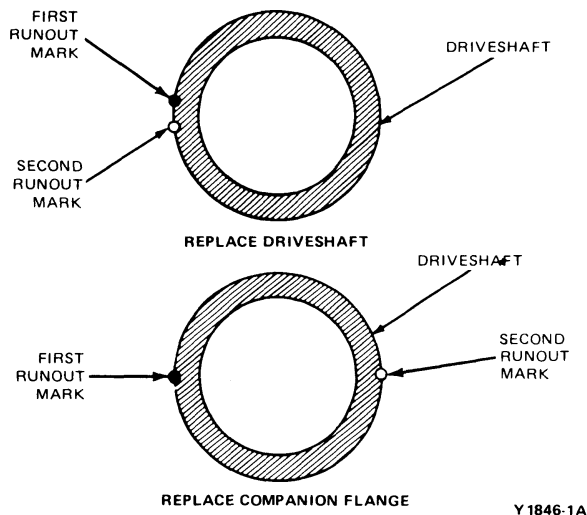

FIG. 7 Reading Runout Marks
9. Compare the first and second marks at the rear of the driveshaft to determine the cause of the runout. If the marks are within approximately 1 inch, replace the driveshaft. If the marks are approximately on opposite side of the shaft, replace the companion flange. (Refer to Fig. 7).